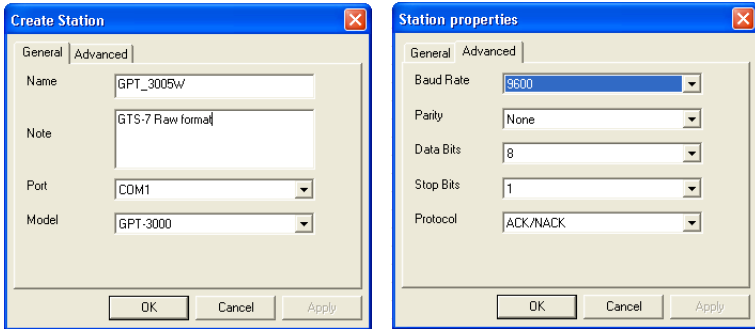

Figure 3-40. Topcon Total Station Properties
*Baud Rate, Parity, Data Bits, Stop Bits, and/or Protocol* used for communication (Figure 3-40).
- On the *General* tab, enter *Name*, *Notes*, the *Port* the device is connected to, and the *Model*. On the *Advanced* tab, select the baud rate, parity, data bits, stop bits, and set checksum (*Set* or *Not Set*) and flow control (*None* or *Xon/Xoff*) used for communication with the Sokkia Total Station(Figure 3-40). Refer to the Sokkia Total Station operator’s manual for details.